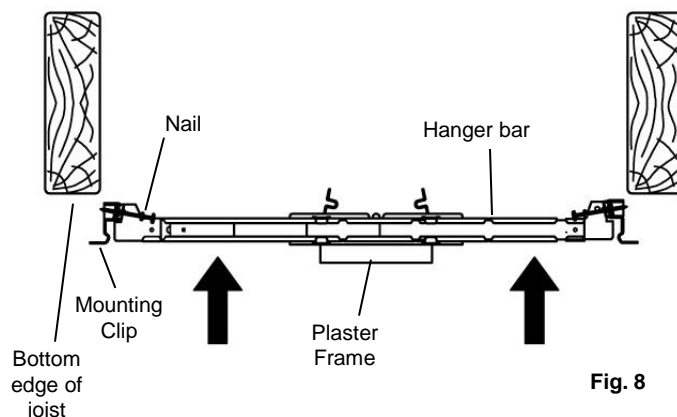

Fig. 8
1. Raise the plaster frame and hanger bar assembly to the desired location between the two ceiling joists. Adjust the width of both hanger bars to the distance between the joists. Position the assembly so that the mounting clips of the hanger bars cup underneath the bottom edges of the joists. Hammer down the nails of the hanger bars into the joists to secure the assembly into place. (Fig. 8)